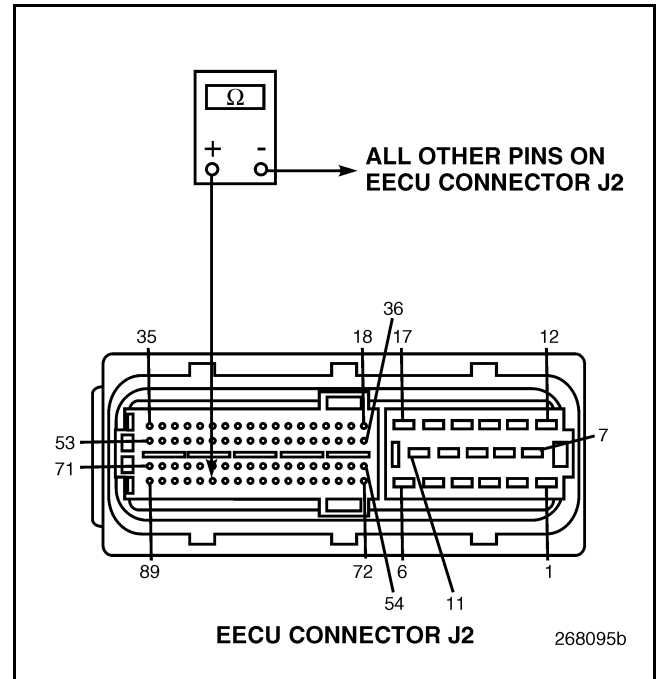

Figure 809
4. Check for continuity between EECU harness connector J2 pin 84 and all other pins on EECU connector J2 (see Figure 809).